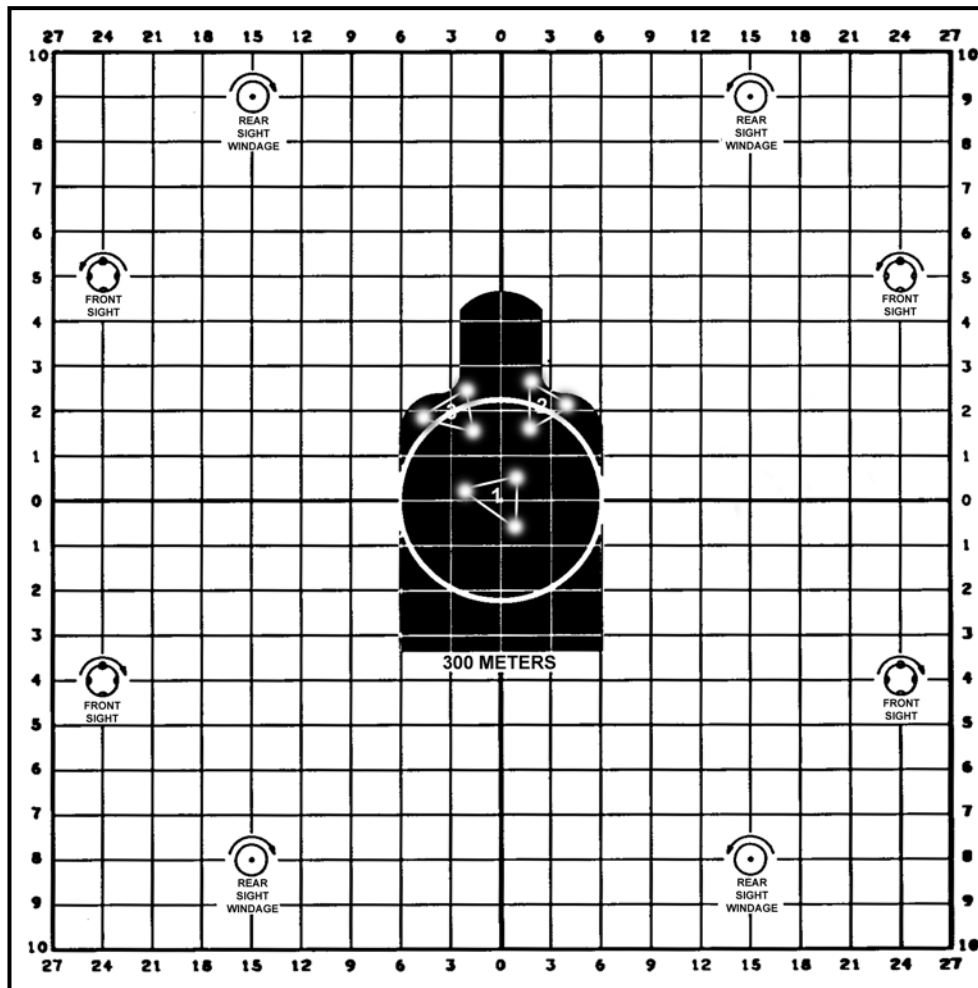

Figure 5-12. Shot groups with inconsistent aiming.
(2) *Shot Groups with Inconsistent Aiming.* The groups in Figure 5-12 indicate that the soldier for each shot group is applying proper firing fundamentals, but is using a different aiming point each time a shot group is fired. The soldier's understanding of the aiming process is questioned, and his position checked for consistency. The instructor-trainer cannot determine which shot group best represents the firer's zero.